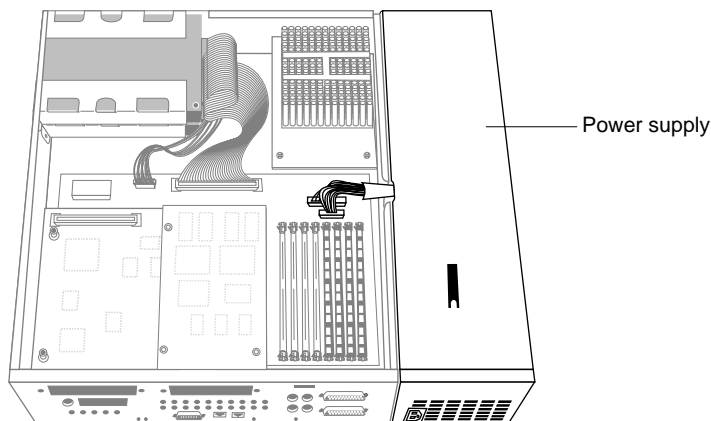

Figure 8-37 Locating the Power Supply
5. Move the system or position yourself so that you are facing the rear of the system. Locate the power supply, as shown in Figure 8-37.